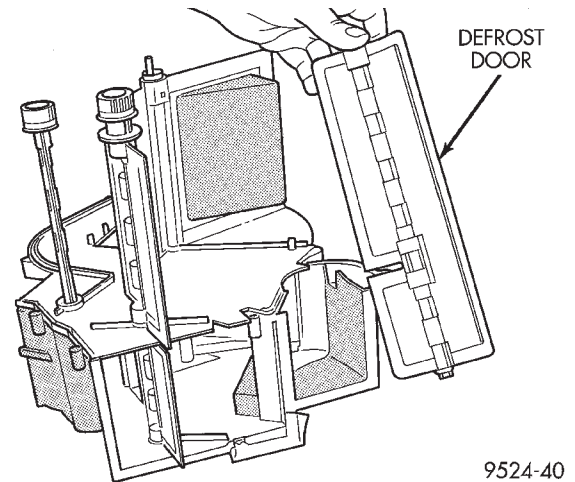

Fig. 73 Defrost Door
- (20) Pull up on separator plate and remove defrost door (Fig. 73).